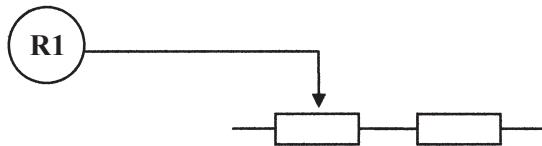

Figure 1
- 1 **Figure 1** shows two resistors.
- (a) Circle **one** of the words below which best describes the resistor combination shown in **Figure 1**.